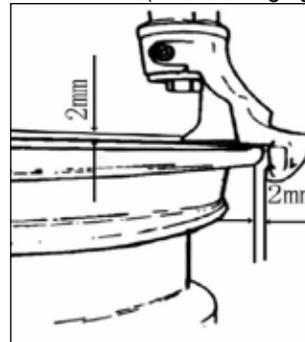

FIG 19
4.1.3 Move the swing arm into position (FIG 2-3). Pull the locking handle forward to release the slide. Push down on the top of the vertical slide to move the demount head into contact with the rim edge. Push the locking handle back to lock the slide into place (FIG 2-17). As the slide is locked, the mount/demount head will move upward approximately 1/8 inch from the rim edge (FIG19). The mount/demount head roller should be in contact with the rim edge. Turn the swing arm adjusting knob to move the head away from the rim 1/8 to 1/4 inch. The operator may swing the arm out of the way and back into place again without needing to reposition the head (when changing a set of the same wheels).